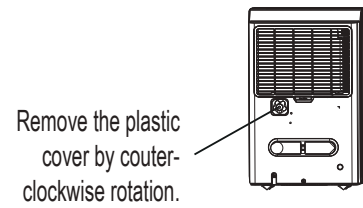
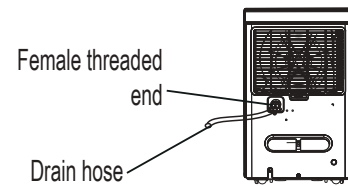

Fig.9
Fig.10
- Remove the plastic cover from the back drain outlet of the unit and set aside, then insert the drain hose through the drain outlet of the unit and lead the drain hose to the floor drain or a suitable drainage facility. (See.Fig.9 and Fig.10)